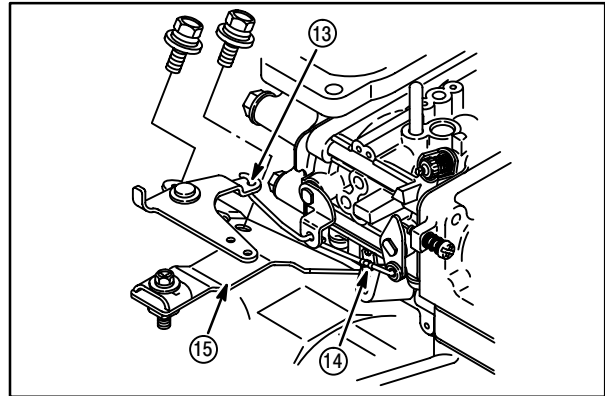

Fig. 35
8. Connect governor link (14) to throttle lever and snap retainer over link, **Fig. 35**.
10. Assemble choke link (13) to carburetor and choke lever. Install choke bracket (15). Torque screws to **65 in. lbs. (7 Nm)**.